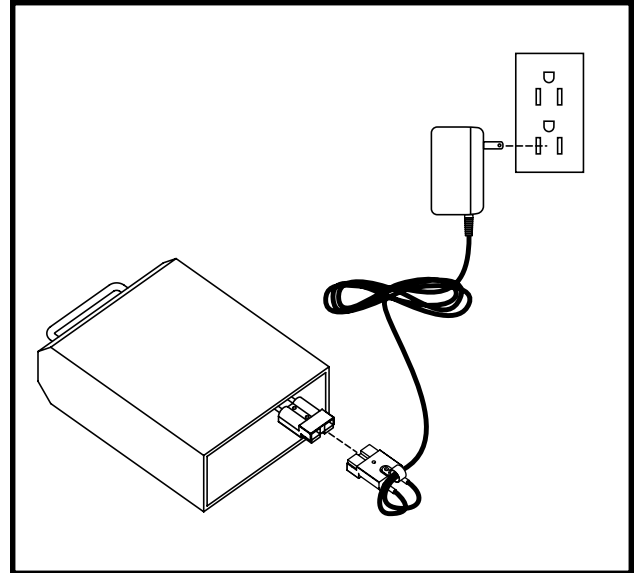

Figure 10. Battery Charging
2. Plug the charger cord into the socket located on the bottom of the battery, then connect the charger cord to a standard electrical outlet. See figure 10.